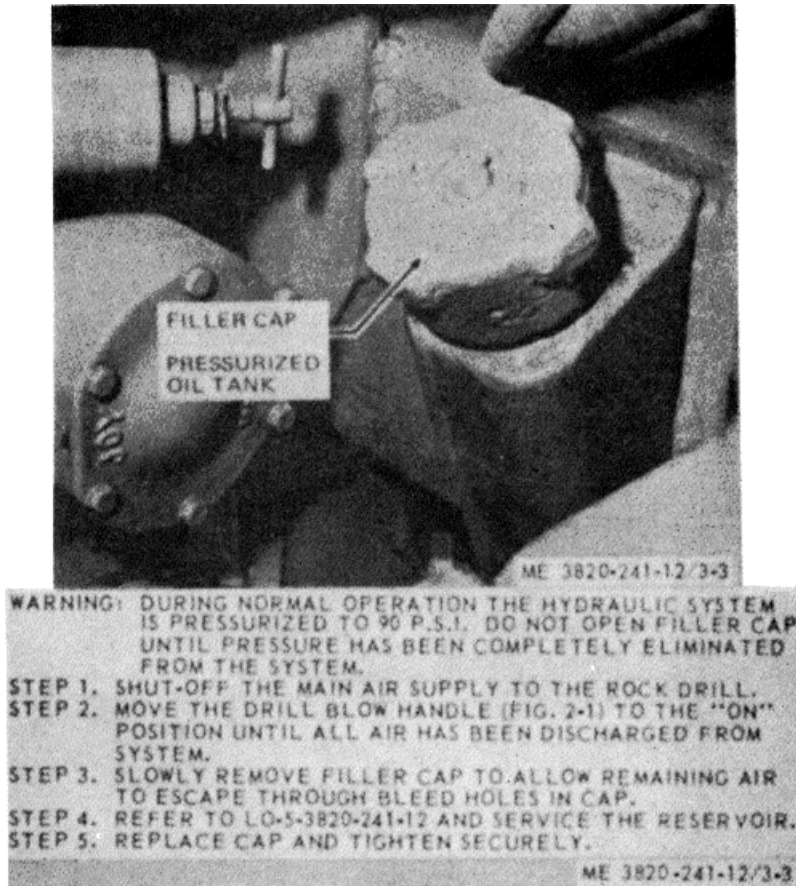

Figure 3-3. Rock drill pressurized reservoir service.
- a. Pressurized Reservoir. Service the pressurized rock drill reservoir as illustrated in figure 3-3.